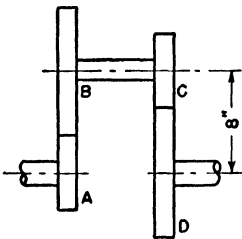

Fig. P 11.5
11.5. The train value of the reverted train shown in Fig. P 11.5 is to be 12. The diametral pitches of gears *A* and *B* is 8, and of gears *C* and *D* is 10. Determine suitable numbers of teeth for the gears. No gear is to have less than 24 teeth.